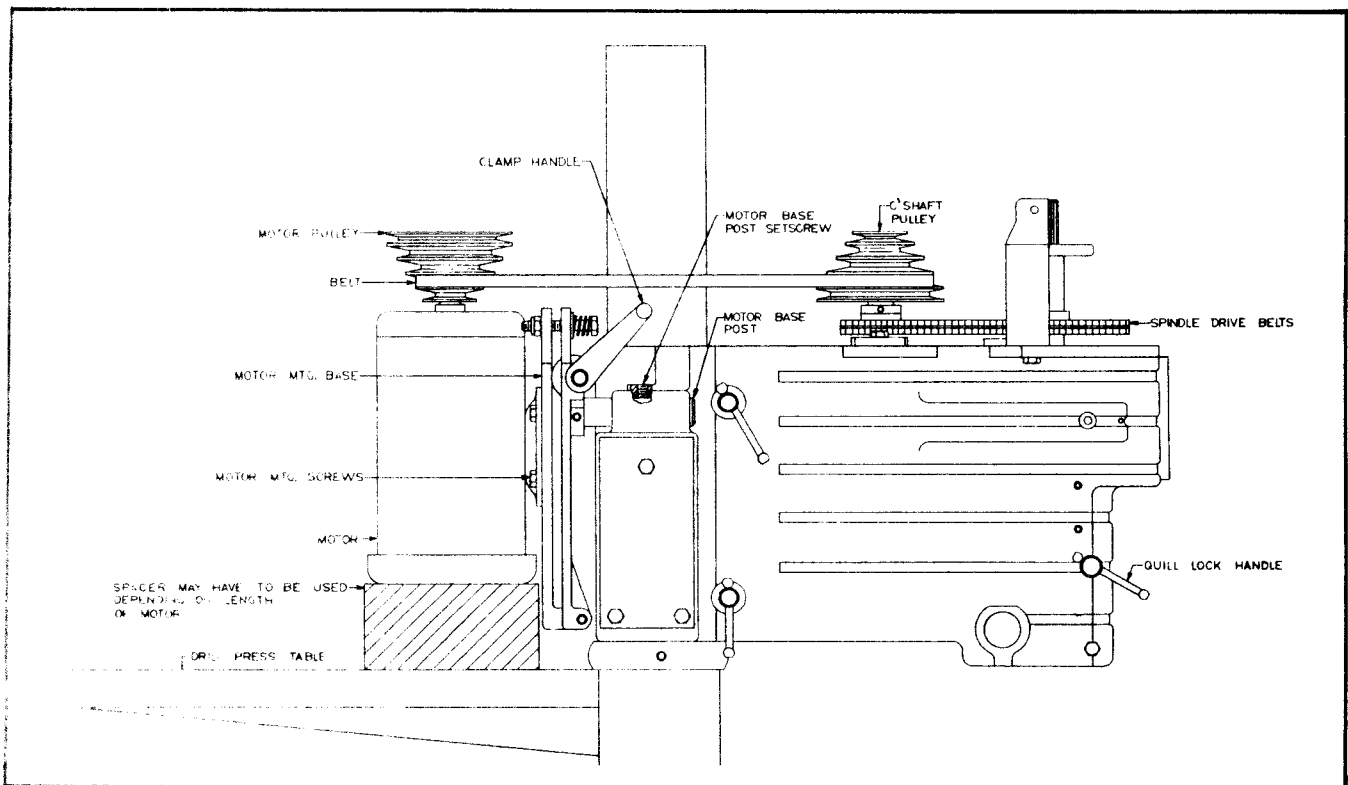

FIGURE 1
- b. Raise drill press table as shown in Fig. 1. Place motor upright on table and install motor to motor mount, using (4) 5/16" x 5/8" long hex head cap screws. Align motor and spindle pulley and tighten motor pulley setscrews.
Speed changes on step pulley models are to be made with the machine not running -- rotate the clamp handle clockwise (Fig. 1). Belt is now free to move to any of the 5 speeds available. When speed choice is made, rotate clamp handle counterclockwise for proper tension.